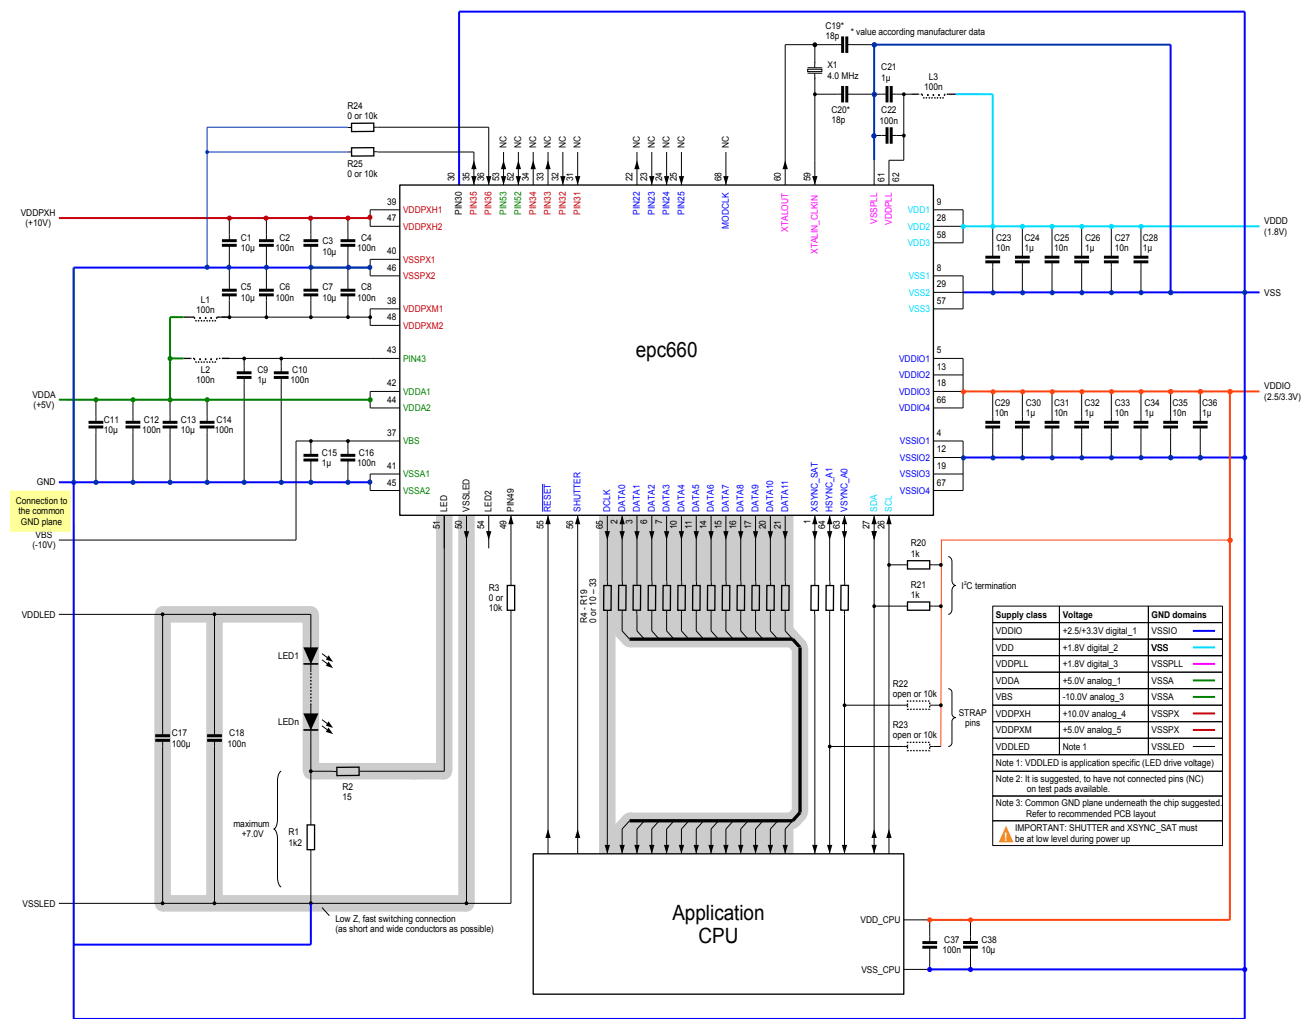
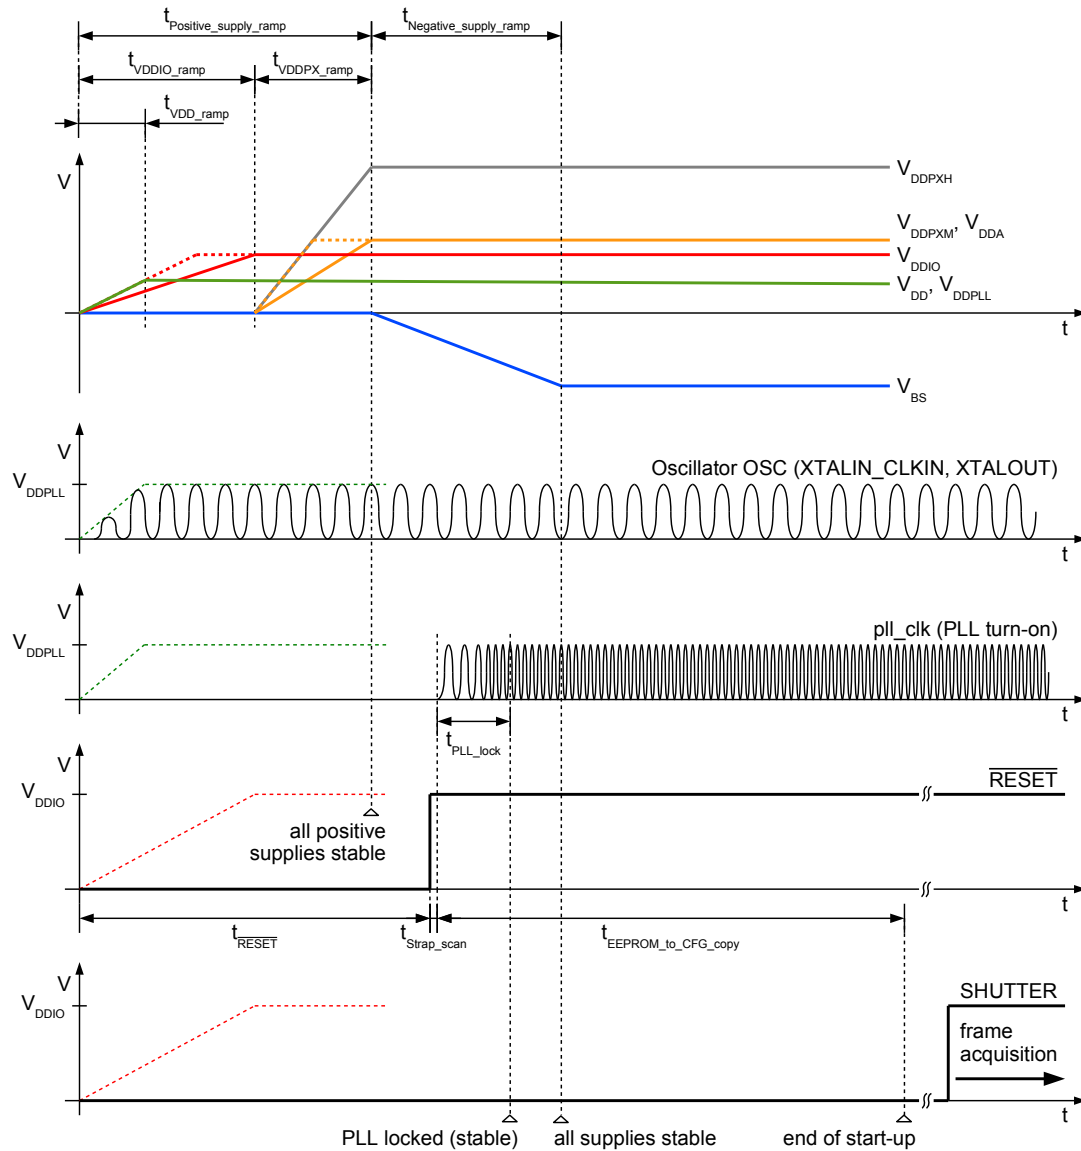

Figure 17: Typical application diagram
Figure 21: Power-up and reset sequence
Table 11: Values of component related to epc660 chip, see Figure 17
- epc660 is supplied with +1.8V, +2.5/3.3V, +5V, +10V and -10V. See Figure 17.
- +1.8V is used for supplying the digital logic (VDD), the on-chip oscillator OSC and the phase-look-loop PLL (VDDPLL). These supplies are marked in the application diagram as VDD and VDDPLL respectively (Figure 17). Their supply wiring must be separated from the digital wires and physically isolated from each other. The XTAL/OSC and PLL are critical parts of the chip which directly impacts the optical system performance (i.e. distance calculation). Thereof, the VDDPLL supply needs a well decoupling from VDD, because the digital logic creates some internal switching noise on VDD.
5. +5V is used for supplying analog blocks of the chip e.g. pixel-field drivers and ADC readout circuitry. Refer to Figure 17.
16. Pins not listed here have to be connected according Figure 17.
During the power-up sequence, VDD and VDDPLL supplies (Figure 21) must be applied at the same time to the epc660. VDDIO can be applied either at the same time or after VDD and VDDPLL supplies become stable. In a system where VDDIO voltage is connected in parallel to application CPU IO supply pins (see Figure 17), VDD and VDDPLL can be generated by a linear regulator directly from VDDIO supply. In this case, all these three supplies ramp together.
The epc660 starts using either the internal 4MHz oscillator OSC with a crystal/resonator (Figure 17) or an external 4MHz clock, followed by an EEPROM copy sequence in parallel to the PLL turn-on phase. This is the factory default configuration. Several configuration registers are modified by copying the EEPROM content (Figure 58, i.e. overwrite reset values).
The epc660 has output pins with dual/alternative functionality for PCB level flexible start-up configuration changing, called 'strap pins'. RESET release is followed by a strap pin scanning step. The chip programs its strap pins as inputs with internal pull-down resistors enabled for 4 osc_clk periods (refer to Table 1 and Table 3.). If there is no external pull-up resistor connected, the corresponding strap pin will be scanned as logic 0 due to the internal pull-down resistor. If there is an external pull-up resistor connected (Figure 17), it will override the internal pull-down and corresponding pin will be scanned as logic 1. After the strap scan period, pins are programmed back as outputs so that they can be used for their main function. Strap pins and their definitions are listed below (Table 12).